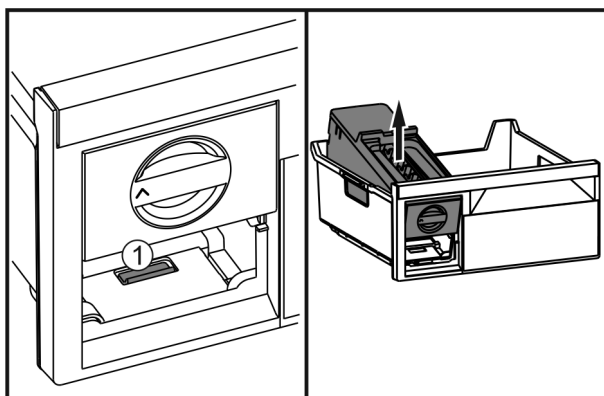

Fig. 59
- ▶ Press the lug Fig. 59 (1), lift up the EasyTwist-Ice at the rear and take it out of the freezer drawer.